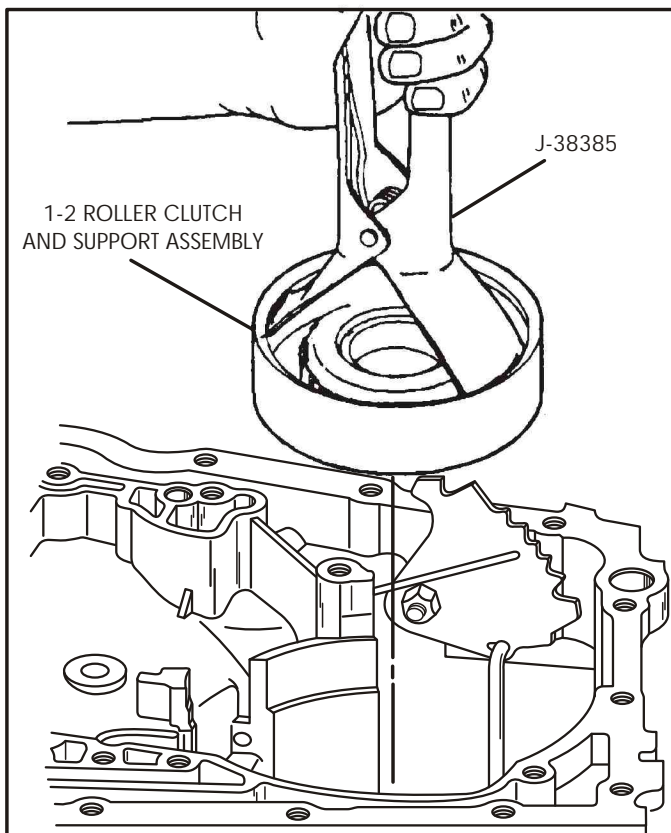

Figure 156
35. Install the 1-2 roller clutch and support, using installation tool J-38385, shown in Figure 156.